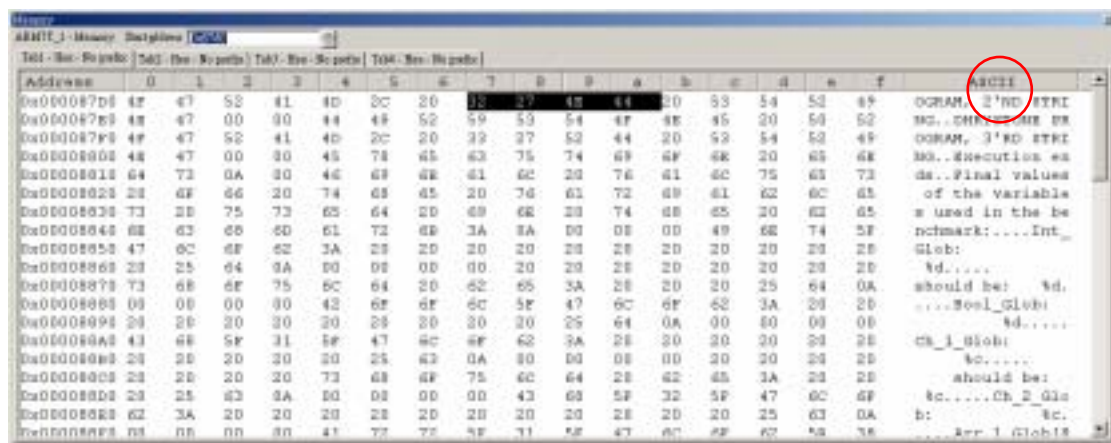

Figure 21. Search for string in memory (2'ND).
- Select **ASCII** for the **Search string type**, and click the **Find** button. A **Memory processor view** opens and shows the contents of an area of memory, with the string you specified highlighted. Reposition, resize and/or adjust the resolution of the window if necessary. To see a display similar to that in Figure 21, You might have to right-click in the window to display the pop-up menu and set **Size** to **8 bit** and **Format** to **Hex - No prefix**.